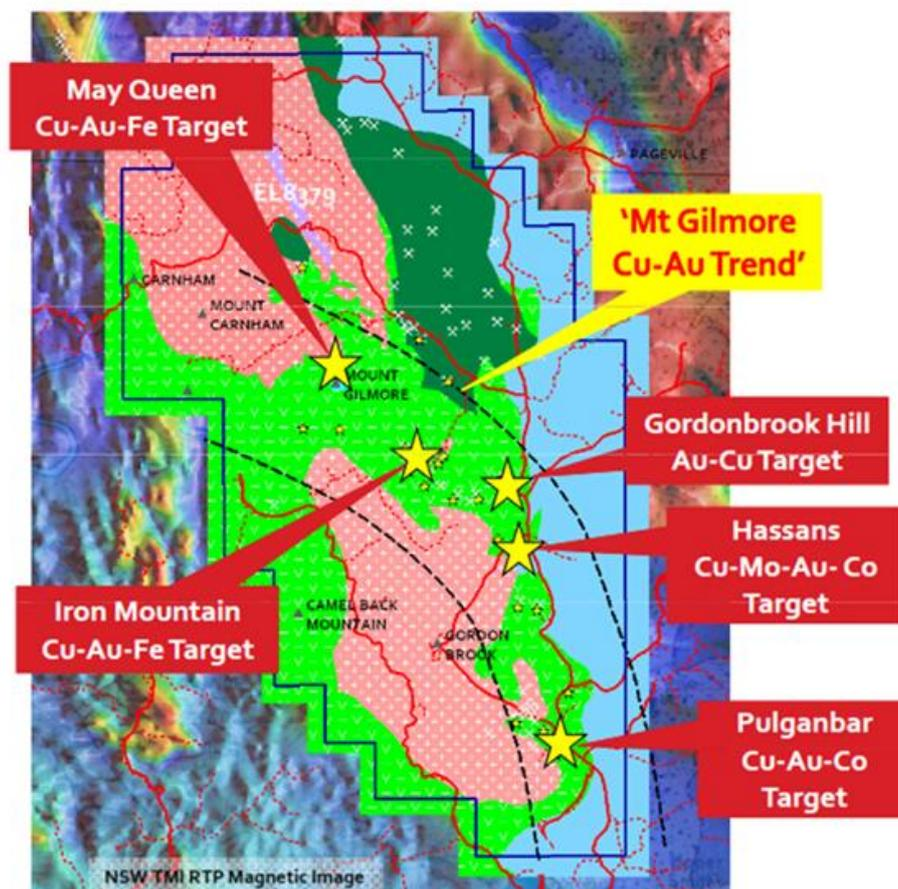

Figure 4: The Mt Gilmore Trend and Prospect Location over Regional Geological Interpretation
A prospective 18km trend (the Mt Gilmore Trend – Figure 4) has been identified within the Project. This zone includes:
- Five large scale Cu-Au targets have been defined (Figure 4).